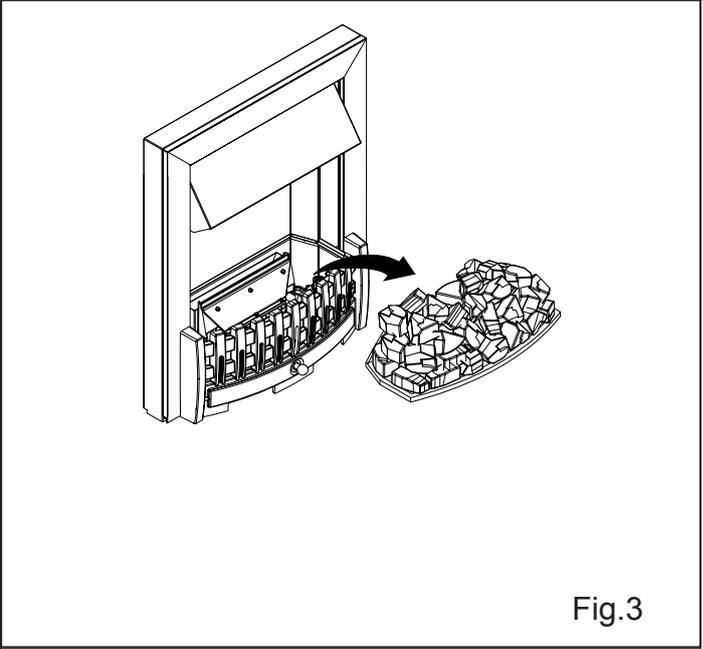

Fig.3
1. Leaving the flame effect on, lift out the fuelbed and water tank. (See Fig.3)
2. Gently lift out the fuelbed and set aside carefully. (See Fig.3)
1. Press Switch 'A' to the 'OFF' (0) position
2. Gently lift out the fuelbed and place carefully on the ground. (See Fig.3)